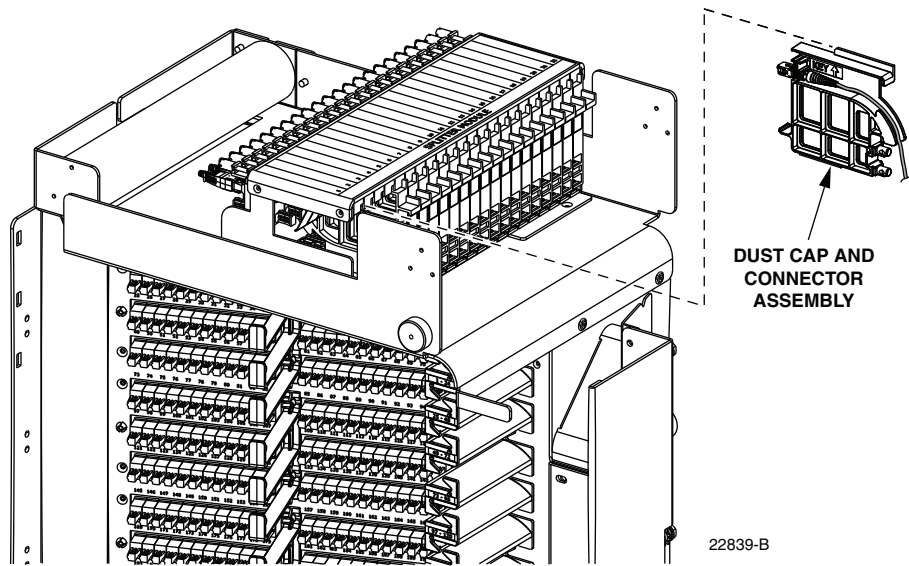

Figure 74. Inserting Dust Cap Assembly Into Splitter Compartment
9. Connect the patch cord connector(s) to the feeder cable connector(s) by inserting the dust cap assembly into the splitter slot as shown in Figure 74.